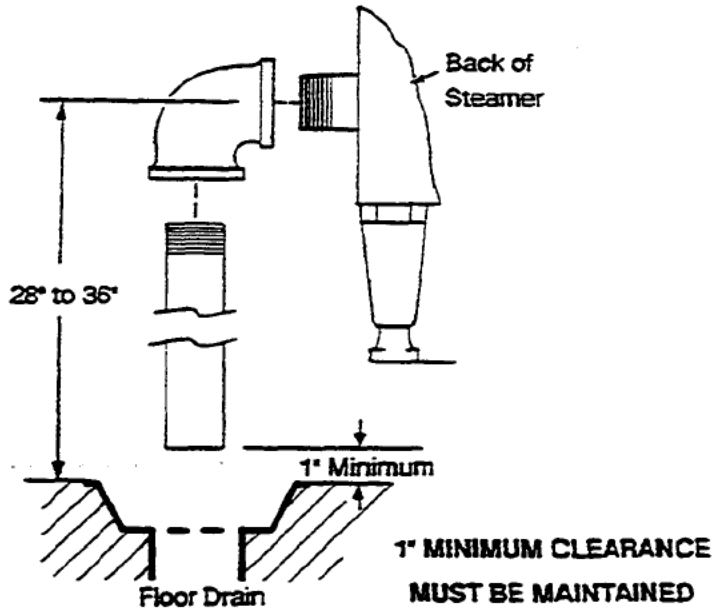

Figure 2-20. Drain Line
1. The SteamCraft V drain outlet (figure 2-20) is a 1-1/4" NPT pipe protruding from the back of the unit. An elbow connects this drain outlet to the drain extension pipe assembled during site preparation.
2. Refer to figure 2-20. The outlet extension line has a free air vented connection to floor drain or lines leading to the floor drain.